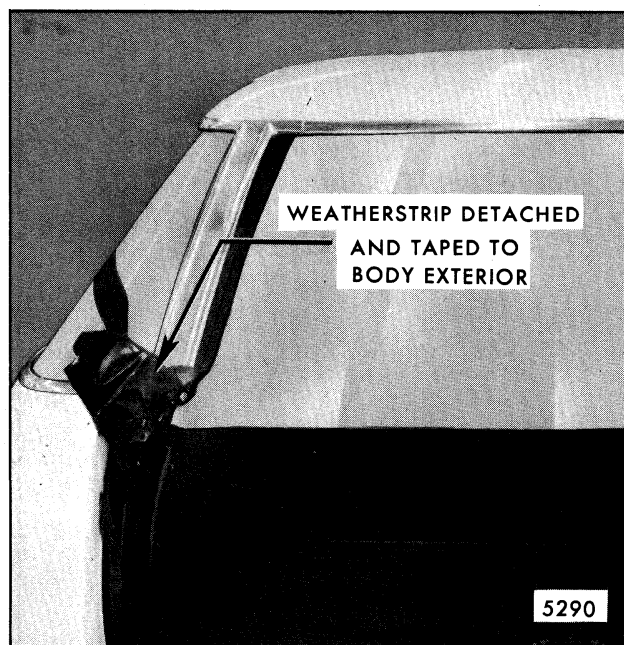

Fig. 7-119-Body Opening Weatherstrip Detachment for Window Removal
3. Carefully detach back body opening weatherstrip sculptured belt detail sections to approximately 5" below beltline. Rotate detached weatherstrip areas outboard to allow window clearance. Tape weatherstrip sections to body exterior (Fig. 7-119).
3. Detach back body opening weatherstrip sculptured belt detail sections and tape to body exterior as previously described (Fig. 7-119).